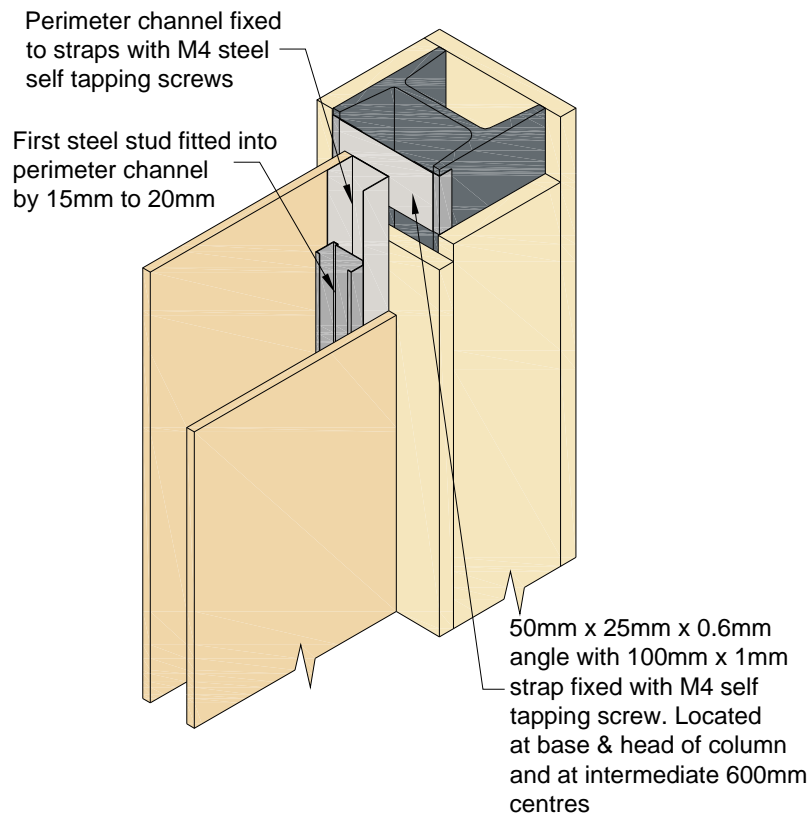

Figure 2
**Figure 2:** Continuous steel angle, 50mm x 25mm x 0.6mm, is fastened to the flange toes of the column HILTI shot-fired nails at nominal 600mm centres. 100mm x 1mm flat straps are fastened to the angles with 2 off M4 self-tapping screws at either end. The straps are located at the head and base of the column and at 600mm centres in between. A vertical steel channel is fastened to the straps, through the PROMATECT® -250, with M4 steel screws. The first steel stud of the partition system is fitted into the channel by 15-20mm. The facing boards are screwed to the first stud, but not to the end channel and should abut to the PROMATECT®-250 casing. If the partition is fire rated then rock wool, minimum 60kg/m3 density, must be fitted into the end channel.